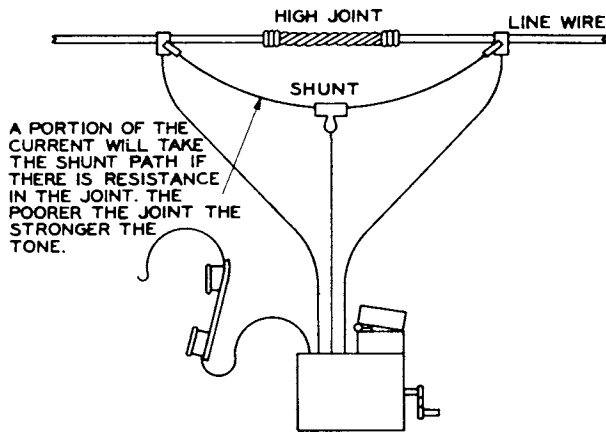

Figure 12. Connection for testing quality of splice.
- a. Attach a test clip to each side of the splice (figure 12).
- b. Shunt the splice with a piece of wire attached to the test clips (figure 12).